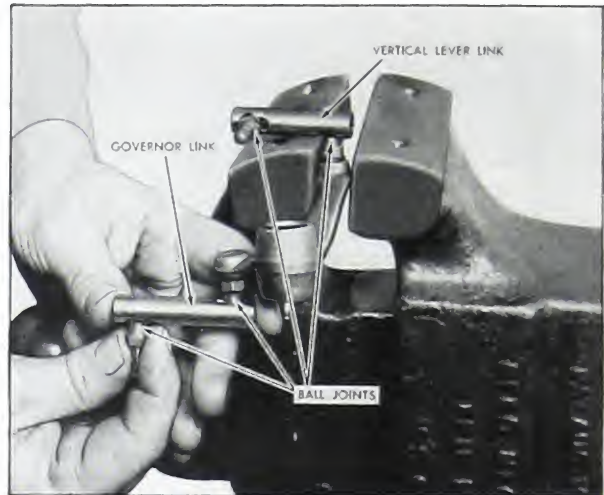

Fig. 5-48. Testing ball joints
12. Inspect the ball joints in the vertical lever link and the governor lever link for wear or rough action. The springs must hold the links without any lost motion but the balls must turn smoothly to prevent bad governor action. Fig. 5-48.